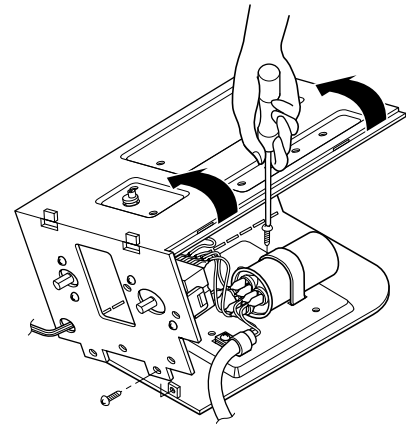

Figure 12
4. Remove a screw and unfold the control box. (See Fig. 12)
5. Remove the screw and the clamp which fastens the capacitor. (See Fig. 12)